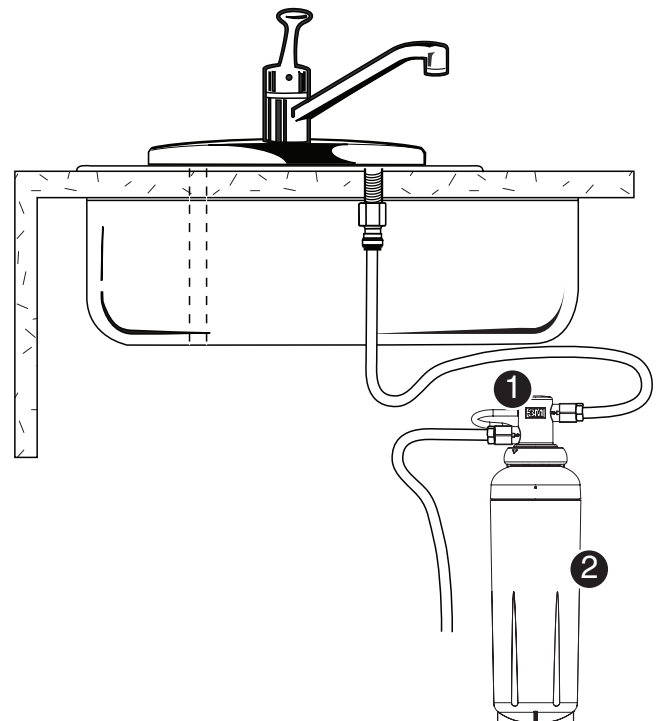
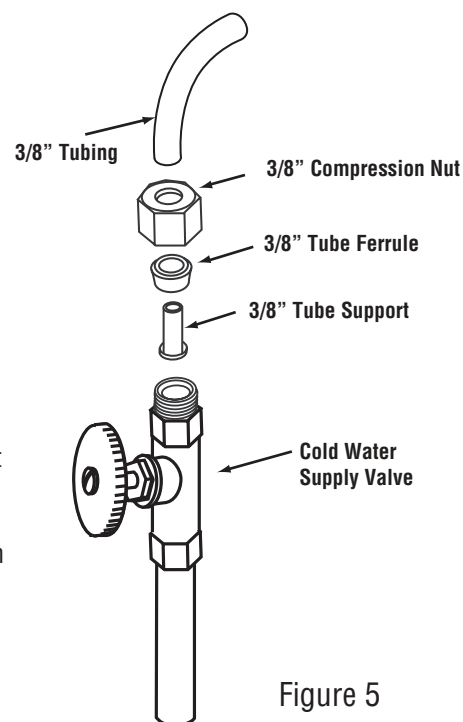

Figure 1
Figure 5
8. Insert 3/8" tubing from faucet adapter fitting into the filter OUTLET fitting as shown in Figure 5.
10. Using a tube ferrule, compression nut and tube support (not included), slide nut and ferrule over 3/8" tubing, insert tube support and connect to the cold water supply valve. (See Figure 5) Insert other end into filter INLET fitting as shown in Figure 1.